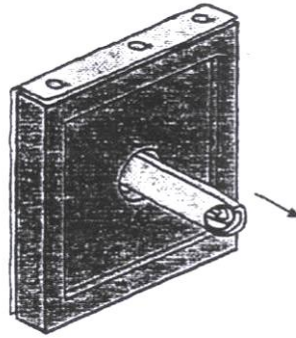

figure 4
- Now stick this cloth roll up to the throat of the cloth through the hole in the filter plate according to the following figure 4